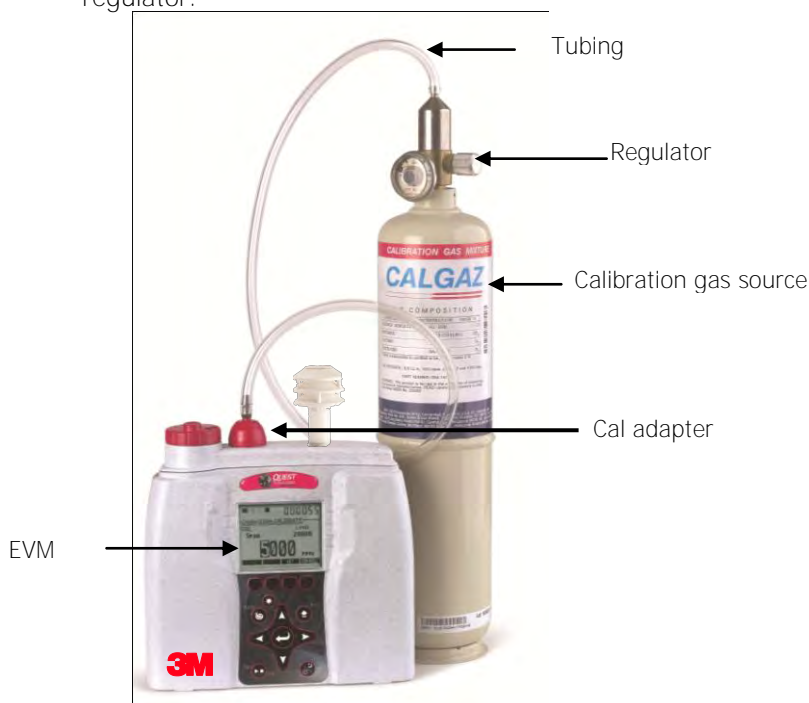

Figure 4-17: Applying a gas sensor
- Continuing from the zero cal procedures, you should be viewing the **Cal/Pause** screen (as displayed in Figure 4-17). Press the **Span** softkey.